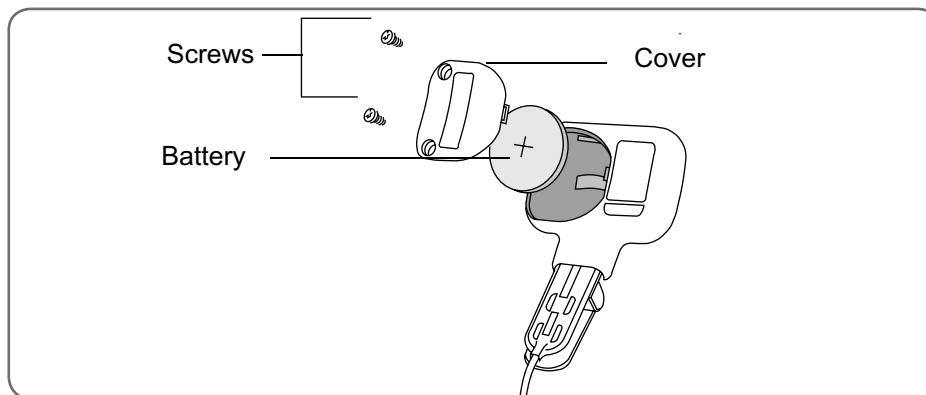

Figure 8-5: Replacing the Gait Sensor battery.
1. Use the Phillips screwdriver supplied in the system kit to unscrew the two screws from the battery cover. See Figure 8-5.